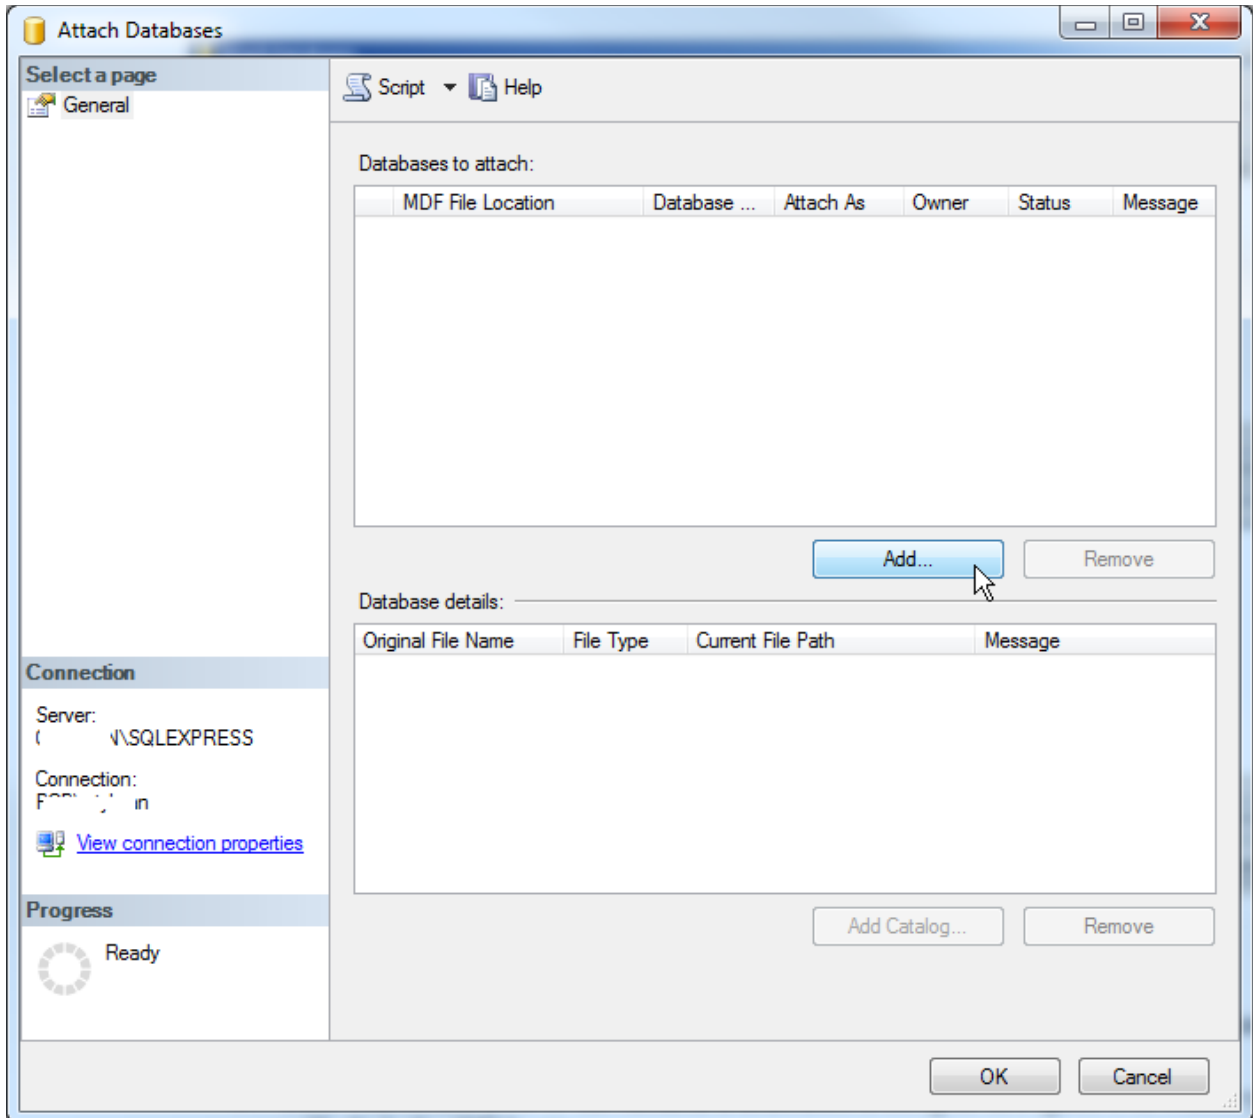

Figure 153 – SQL Server Database File Attachment Screen
- This will bring up the **Attach Databases** dialog shown in Figure 153